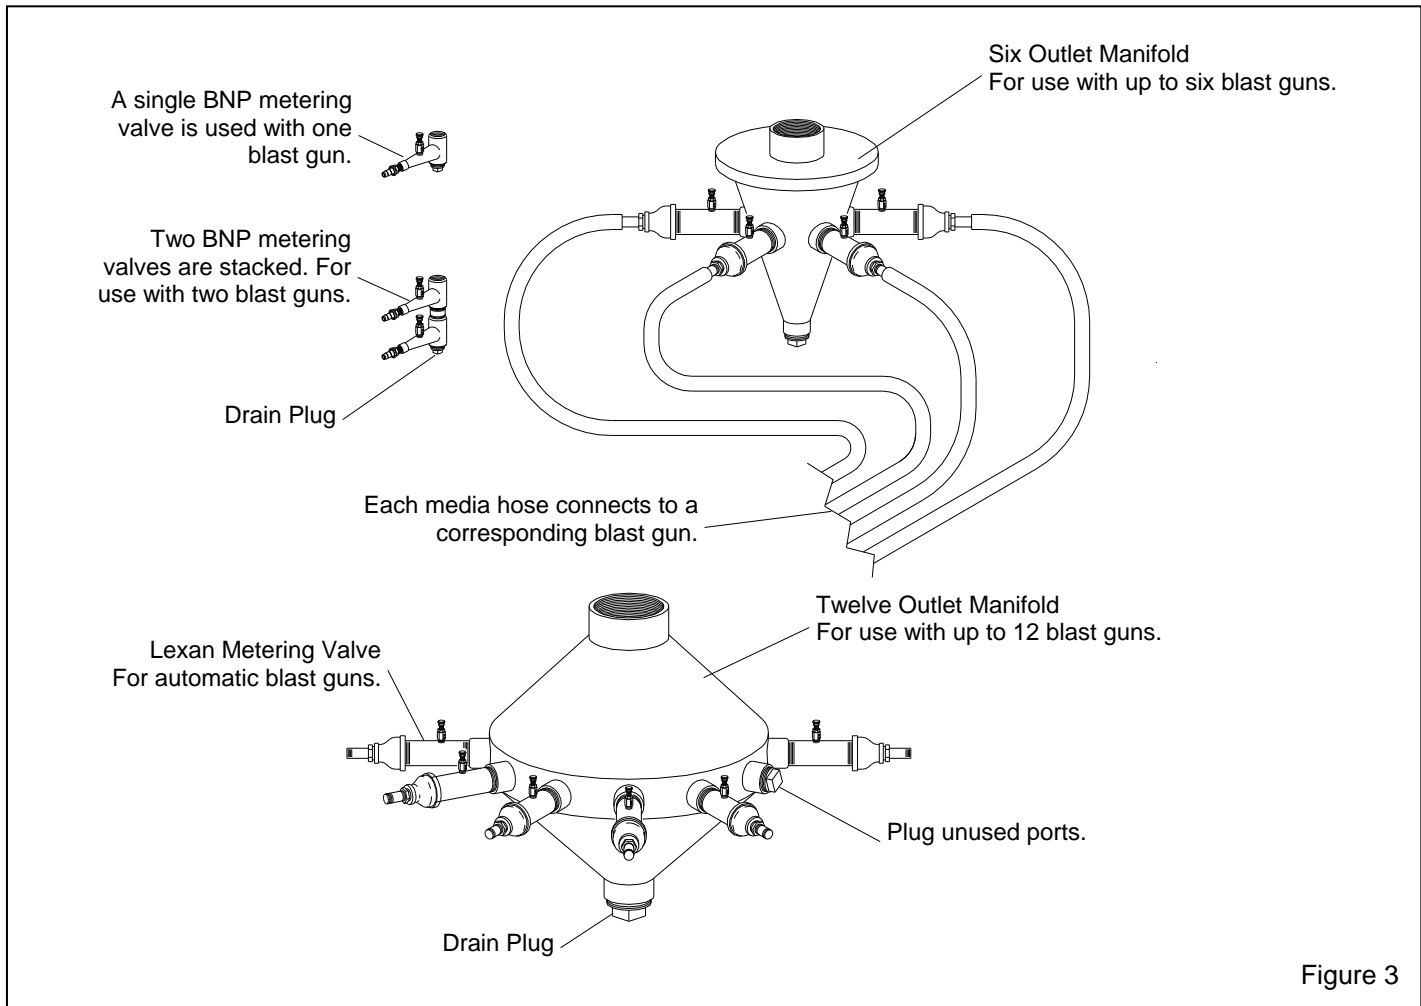

Figure 3
2.4.1 The type of metering valve feed system is determined by the number of blast guns. The illustration in Figure 3 shows several systems. When one blast gun is used, the metering valve is attached to the pipe nipple located on the bottom of the reclaimer hopper. If two guns are used, the first metering valve is installed as stated above, and the second valve is installed under it as shown. When more than two blast guns are used, a media manifold is attached to the bottom of the reclaimer, using the same number of valves as blast guns. Marking each metering valve, hose and blast gun with a corresponding number makes adjustments and troubleshooting easier.